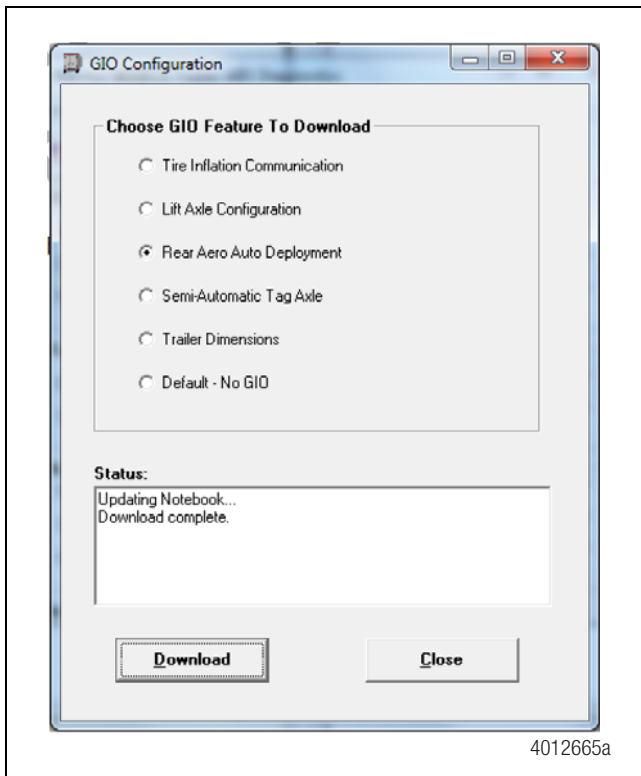

Figure 7
- When a confirmation message appears, the programming is complete. Press the **Close** button to continue. Figure 7.